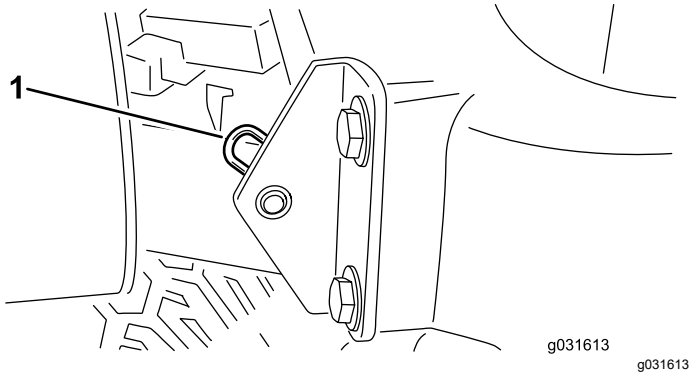

Figure 74
2. Remove the hairpin cotter securing the hood pivot to the mounting brackets (Figure 74).